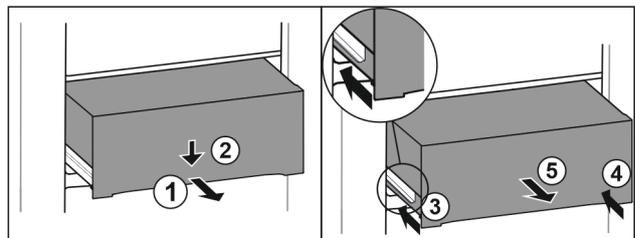

Fig. 93
- ▶ Pull out drawer half-way. *Fig. 93 (1)*
- ▶ Push the drawer down at the front. *Fig. 93 (2)*
- ▶ Push the left rail in by about 2 cm. *Fig. 93 (3)*
- ▶ Push the right rail in by about 2 cm. *Fig. 93 (4)*
- ▶ Remove drawer to the front. *Fig. 93 (5)*